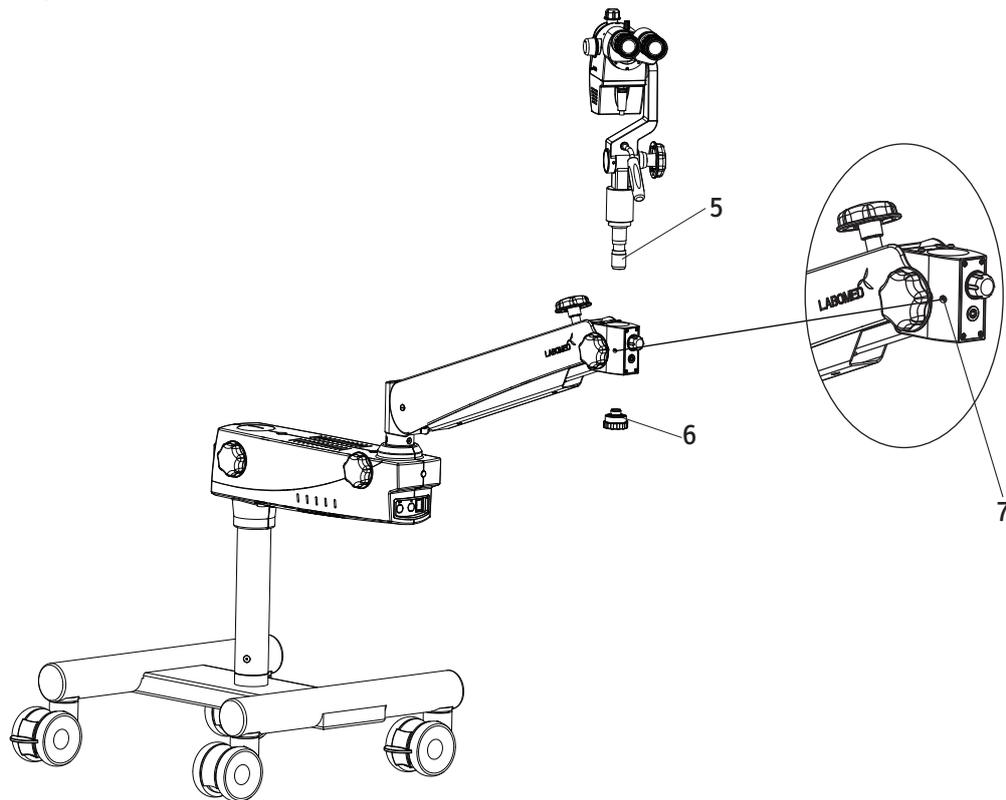

Fig. 2.5
- Retrieve the carrier assembly from the packing and follow as below. refer Fig. 2.5
- Install the coupling to the suspension arm by sliding the guiding shaft (5) in to suspension arm.
- Lock the inclined coupling with the threaded plug (6).
- Secure the Flat Head Safety Screw (M5) using a flat head screw driver in the socket situated in Suspension arm front coupling as shown as (7) in fig. 2.5. The same is hanged with a tie to Potentiometer knob.